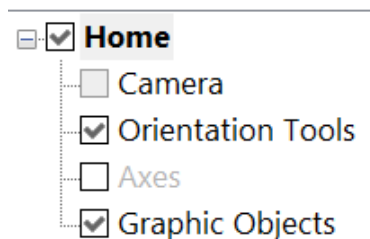

Figure 3.3: Tree menu at the beginning of the work
- At the top left there is the **tree menu** (Figure 3.3), which allows to select the object to act on and to operate and manage an entire project. At the beginning of the work the some tools already show in the tree, but when a project will be loaded further elements will appear.
- At the bottom left of the screen (Figure 3.3), various **tools** will appear when one submenu of the tree is selected. Through these tools it is possible to manage the properties of the various graphic elements shown on the right. Therefore, the contents of this part of the screen changes depending on the selected tree menu and the license level installed.
- On the right (Figure 3.3) is the **3D space** where the elements selected in the tree menu are shown. If no project or object is loaded, it is empty. To easily understand how to interact with the scene in the next paragraph an object has been placed into it. The creation, the insert mode, their settings and other items will be discussed later.